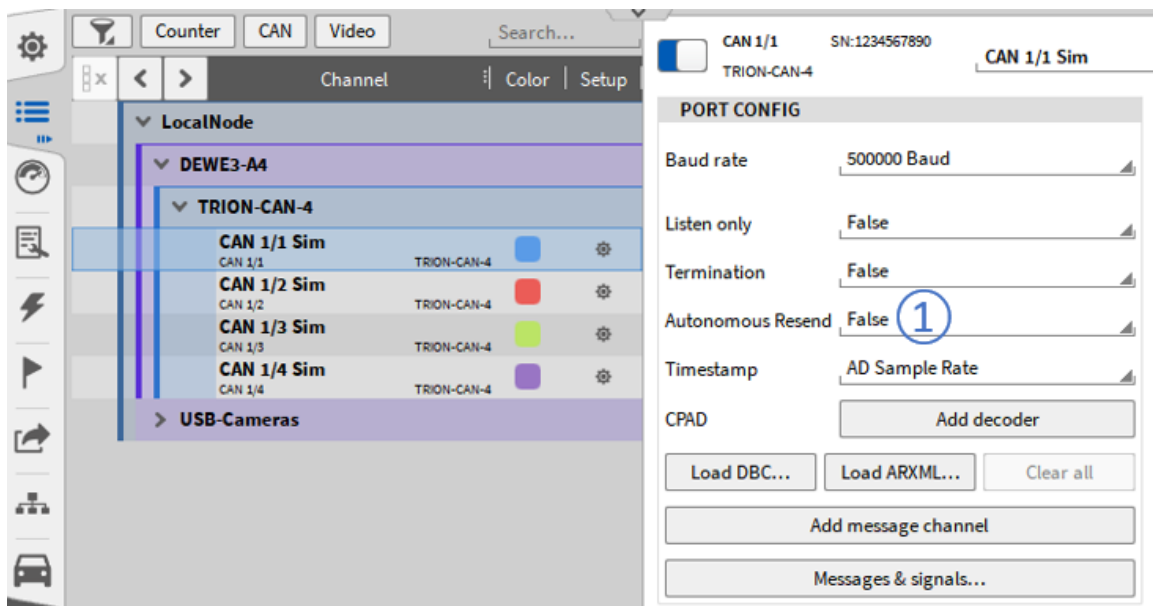

Fig. 7.200: Autonomous resend option
The Autonomous Resend option (see ① in Fig. 7.200) provides the following functionality for CAN buses which transmit data: